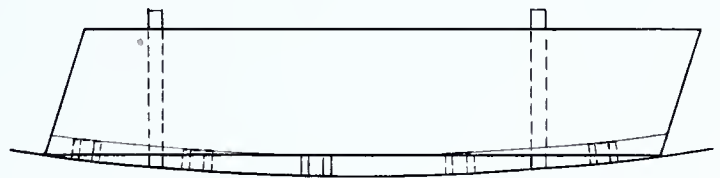

FIG. 601 — *Fitting the Plate to the Shell*
3. Place and fit pc. mk. 12 (top plate) and pc. mk. 11 (bottom plate) as shown on Drawing 241-901-20 at *A*. In fitting these plates, the shell should not be fitted to the plates; the plates must be fitted to the shell. Any attempt to fit to the plate will not only be very difficult; it will also distort the shell plates. Fig. 601 shows method of marking off top and bottom plates so they will fit shell correctly.
5. Mark off pc. mk. 10 as explained in Step 3, Fig. 601.